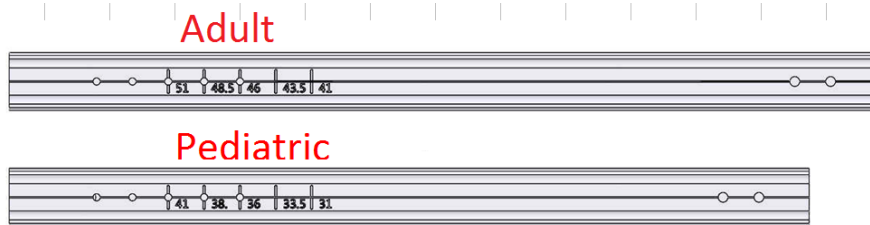

Figure 5-76
5.3.5.7 The rails for adjusting the seat depth can be divided into two types, one for adults and the other for children.(Figure 5-76). The adjustable range is shown as below.